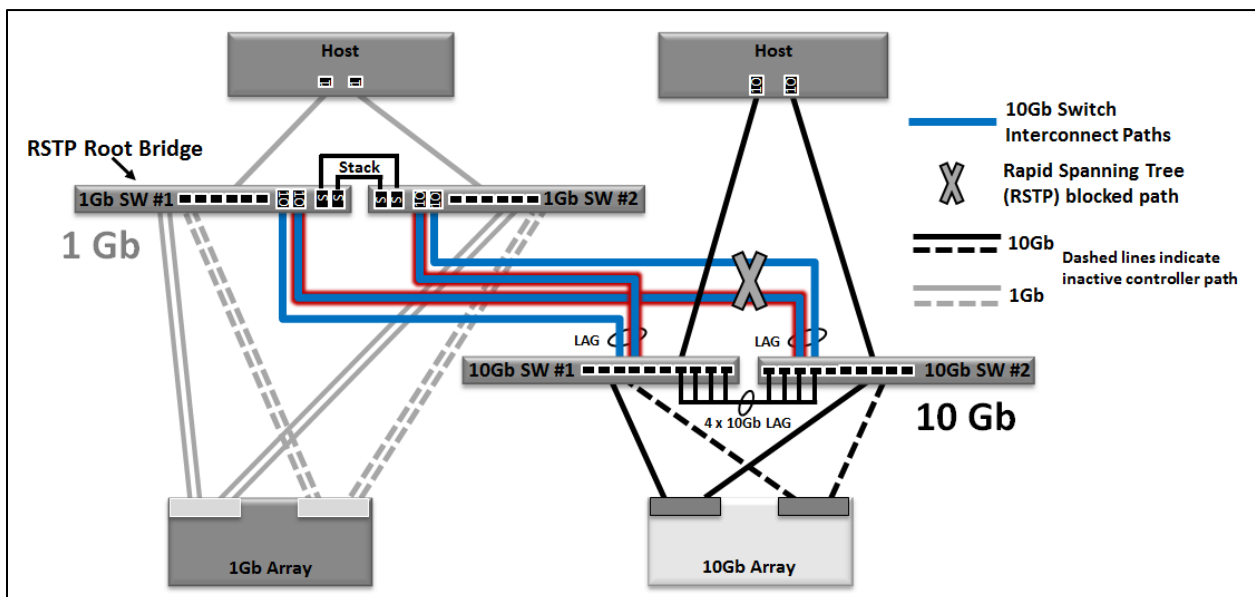
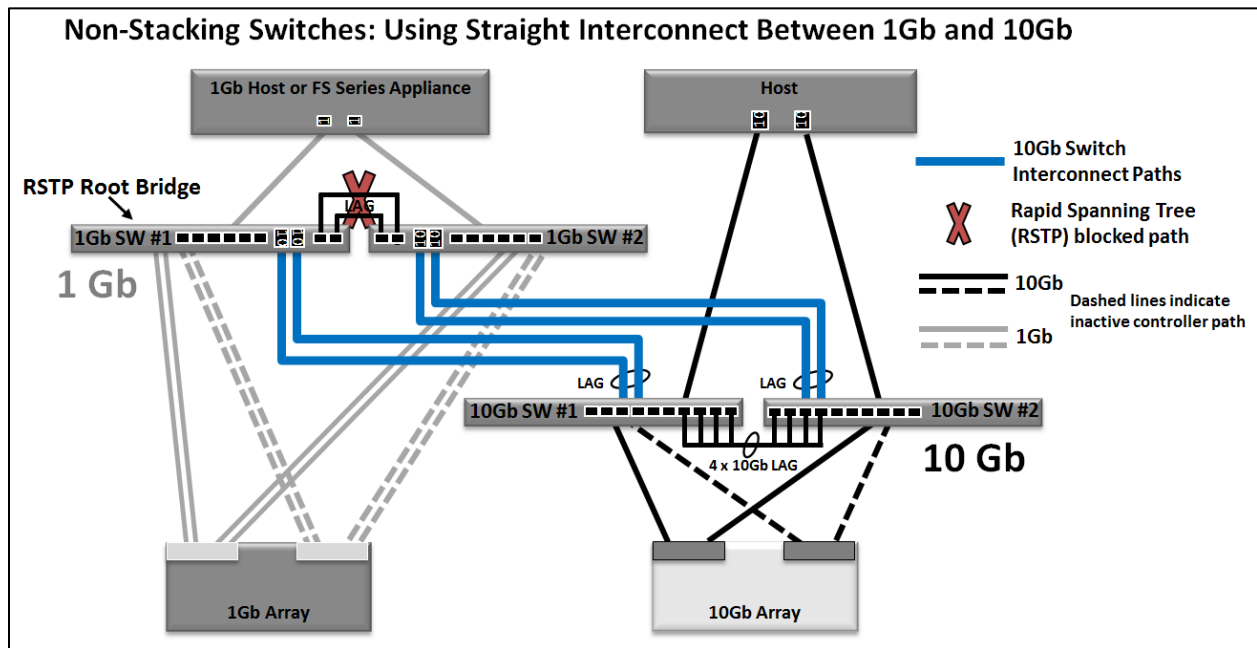

Figure 28 Mixed speed redundant SAN using split interconnect between 1Gb and 10Gb switches
Figure 29 Mixed speed redundant SAN using straight interconnect between 1Gb and 10Gb switches
To create a redundant, mixed speed iSCSI SAN, at a minimum we recommend that you start with dual 1GbE and dual 10GbE switches. Figure 28 shows an example SAN design, where two switches of each type are used.
Referring to Figure 28:
- **FS7500 Connection Path** – The initial FS Series NAS product (FS7500) is a 1Gb only solution. The NAS Reserve pool for the FS7500 could also be stored in a mixed 1Gb/10Gb PS Series SAN. In this case the FS Series appliance must connect via the 1Gb switch path as shown in Figure 28 and Figure 29.
The LAG between the 10Gb switches in Figure 28 creates a loop in the network. Rapid Spanning Tree Protocol (RSTP) will compensate for this by blocking paths as necessary. The optimal spanning tree strategy for this network is to prevent RSTP from blocking the inter-switch trunk between the 10Gb switches, thus causing some 10Gb traffic to traverse the slower 1Gb switches. To accomplish this you need to be aware of which switch is acting as the root bridge in the spanning tree. For the mixed speed SAN design shown in Figure 28 the root bridge is **1Gb SW#1**. Based on this information you can assign a link cost to ensure that the desired link configuration is achieved. Note the location of the RSTP blocked path in Figure 28. We manually assigned a high link cost to one of the 20Gb uplink LAGs so that it became the RSTP blocked path.
If you are using switches that do not support a stacking mode then you must use the straight interconnect uplink pattern shown in Figure 29. Note the following design differences between the split uplink pattern in Figure 28 and the straight uplink pattern in Figure 29:
- A high rapid spanning tree link cost is assigned to the 1Gb switch LAG (note the location of the RSTP blocked path in Figure 29). Doing this prevents 10Gb inter-switch traffic from having to pass through the 1Gb switch LAG.
- If your 1Gb switches are configured as a stack then you should use the split interconnect pattern shown in Figure 28 by default.
- If your 1Gb switches are not stacked, then you must use the straight interconnect pattern shown in Figure 29.